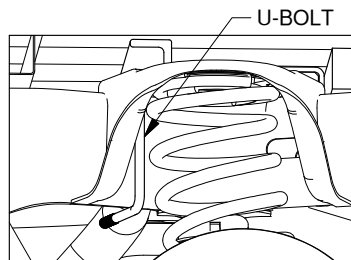
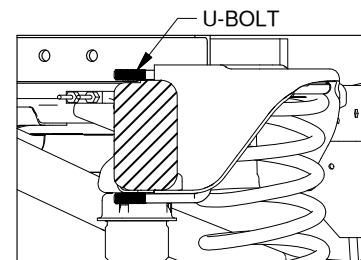

Figure E1: View of driver side suspension spring (Tire and wheel well shroud not shown)
Figure E2: Cutaway view of suspension spring area looking towards the rear of the truck
1. **Place the U-bolts.** Place one U-bolt in front of each coil spring around the pickup frame as shown in Figure E1. To ease installation of the side plates, start with the U-bolts pulled back from the frame so that the ends of U-bolts are flush with the wall of the tubular frame, see Figure E2.